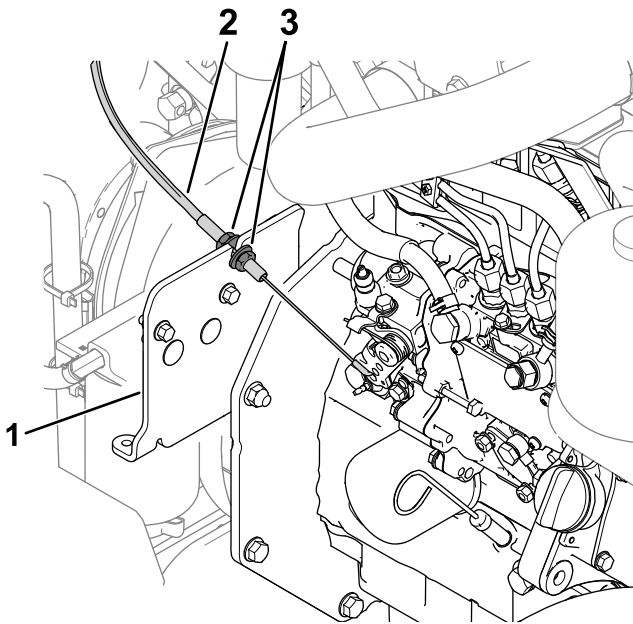

Figure 7
4. Loosen the throttle-cable jam nuts (Figure 7).
- 5. Adjust the throttle cable in the bracket (Figure 7) to attain a speed of 3,100 rpm.